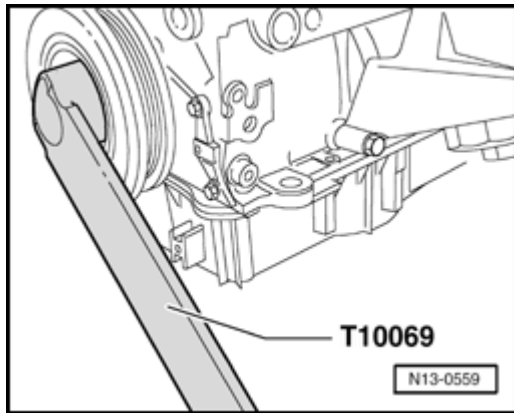

Fig. 1 To loosen and tighten securing bolt, hold vibration damper with counter support T10069
- ◆ Use counter support T10069 to loosen and tighten ⇒ Fig. 1